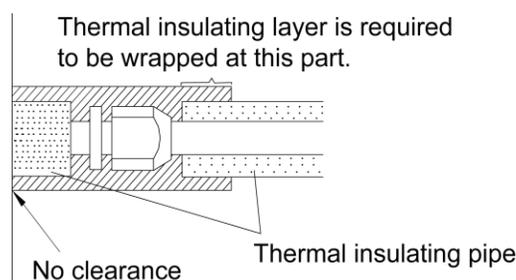

Fig. 4.3.8
- 3) Joints at indoor and outdoor units should be wrapped with insulating material and leave no clearance between pipe and wall. See Fig. 4.3.8.